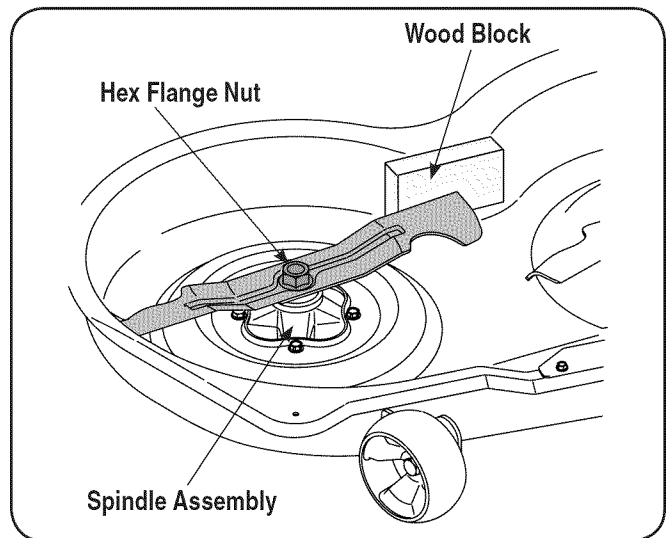

Figure 4-16
2. Place a block of wood between the center deck housing baffle and the cutting blade to act as a stabilizer. See Fig. 4-16.
- Use a 15/16" wrench to remove the hex flange nut that secures the blades to the blade spindle assemblies. See Fig. 4-16.